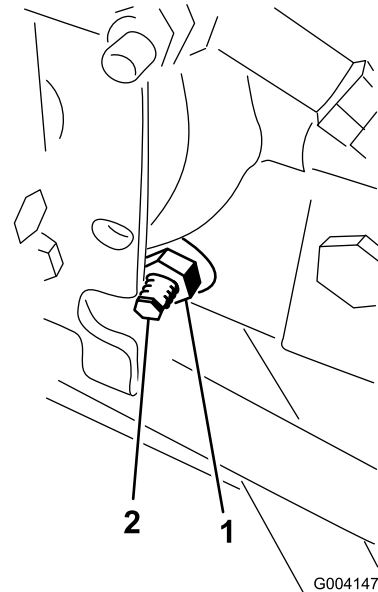

Figure 69
3. On the right side of the hydrostat, loosen the locknut on the traction adjustment cam (Figure 69).